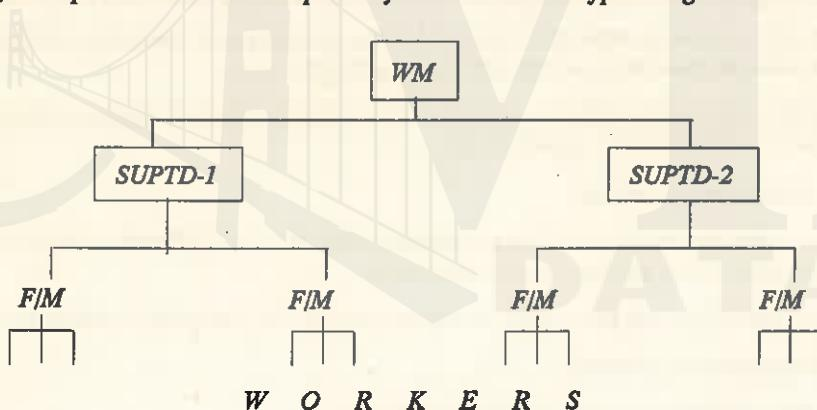

Fig. 3.5. Line Organisation.
- It is the simplest form of organisation structure, (Fig. 3.5).
- The authority flows directly from the Works Manager (WM) to Superintendent to Foremen (F/M) and from them to workers.